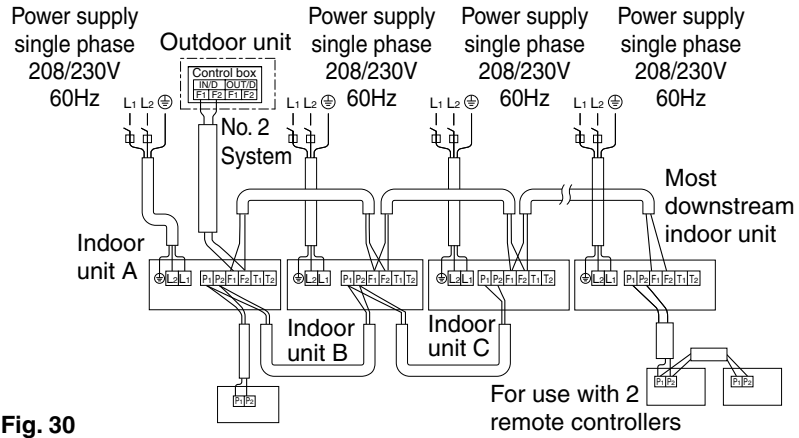

Fig. 30
- (3) Remove the control box lid
- (4) Add remote control 2 (slave) to the terminal block for remote controller (P1, P2) in the control box. (There is no polarity.) (Refer to Fig. 30 and 8-3.)